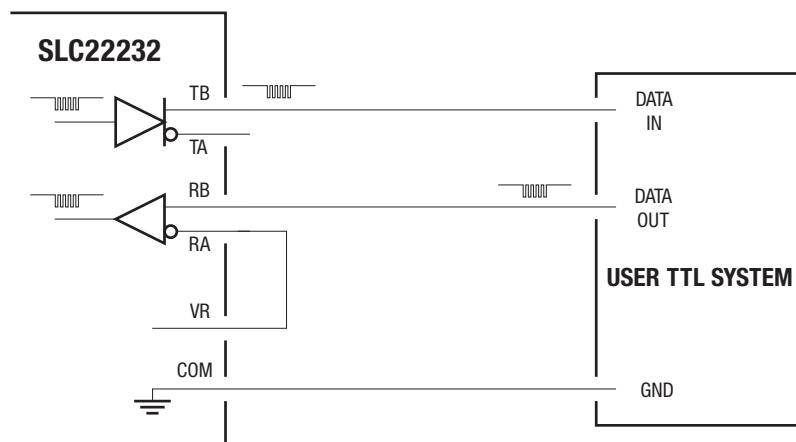

Figure 6. Using an RS-422 Port for TTL-Level Signals.
2.4 TTL-Level Connections Using the RS-422 Port. An RS-422 Port of the SLC22232 may be used to interface TTL-level signals, effectively creating a TTL \leftrightarrow RS-232 converter (Figure 6). In this case the **TB** signal of one of the SLC22232 channels is used as the TTL-level output to the user system, while the **TA** signal is unused. The **RB** signal of that port is used to receive the TTL-Level signal from the user system (note that, in this case, the default state of the **RB** signal with no input is '*LOW*'). To force the RS-422 receiver to "see" the TTL-level signal at the **RB** input as a differential signal, the **RA** input of that port must be biased by connecting it to the on-board 1.65V **VR** output. The other RS-422 channel of the SLC22232 may still be used in the usual manner.